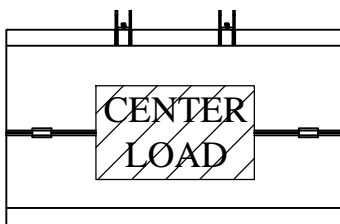

Figure 37: Step 12.
- To load and use the liftgate, center the load on the platform side to side and front to back (Figure 37). Put heavier loads as close to the front of the platform (near truck) as possible. Platform cart stops may be actuated at this time, if equipped.